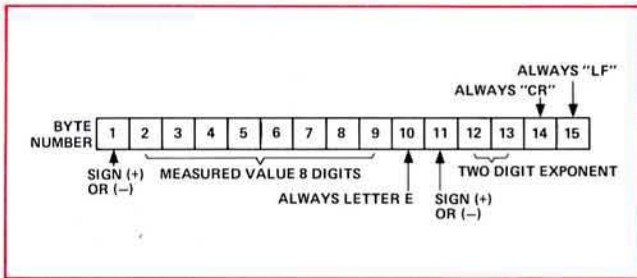

Figure 6-3. 8901A output message format.
The Modulation Analyzer outputs readings in a 15 byte format (Figure 6-3). The output message is in exponential form. It begins with a + or - sign and ends with a carriage return (CR) and line feed (LF). Data is always output in fundamental units: Hz, watts, radians, % or dB. Error messages indicated on the display can also be read remotely. The error output format is +900000NNE+02CRLF where NN is the error number. When an error occurs, the instrument error (NN) is obtained by addressing the 8901A to talk, subtracting  $9 \times 10^9$  from the reading returned, and dividing by 100. The operating information pull-out card lists all the error codes.